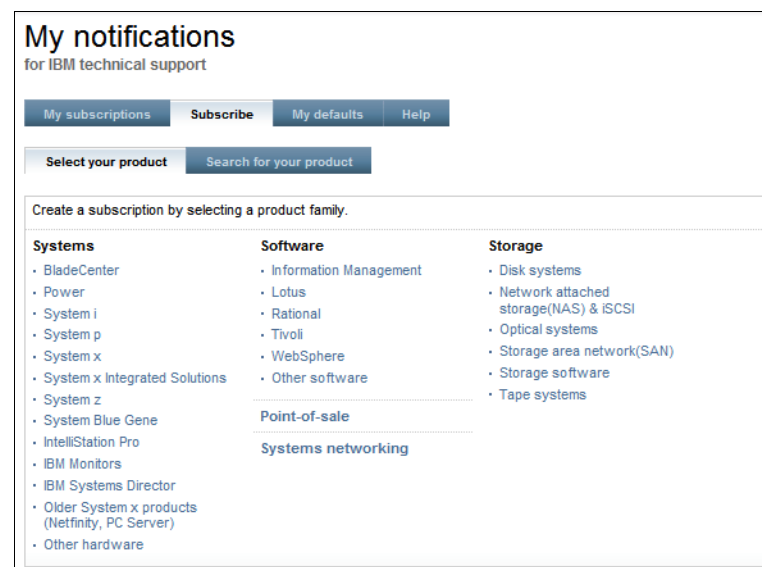

Figure A-18 My notifications - subscribe
- Select the **Subscribe** tab, and you will see the list of available product types as shown in Figure A-18.